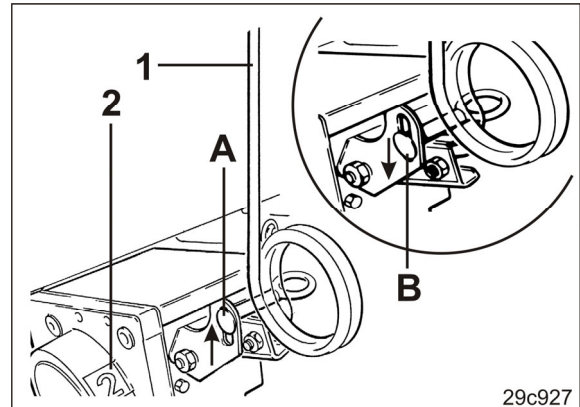

Fig. 208
2. Pull on the operating lever (Fig. 208/1) of the control box if the number (Fig. 208/2) in the window of the control box is at "0". The tramline counter may not display "0".
3. Unscrew the locking bolt (Fig. 208/A) and slide it down in the elongated slot and then tighten it (see Fig. 208/B).
The tramline counter (Fig. 208/2) should not show "0". Otherwise tramlines are continuously created.